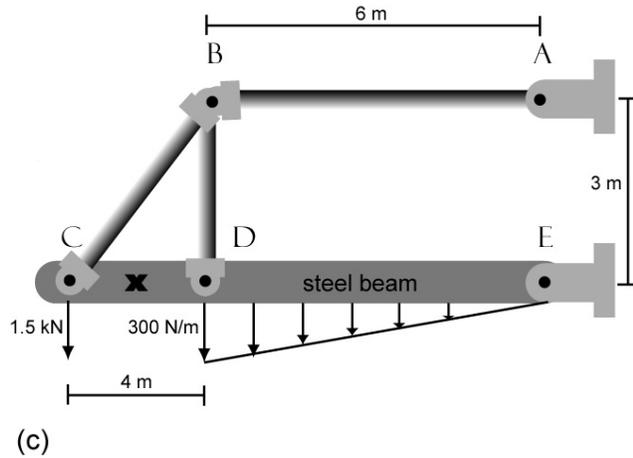

Figure 3: (a,b) Harvard Bridge; (c) Pin-and-hanger assembly, adapted from Hibbeler (2005).
3. The Harvard Bridge on Mass. Ave. (Figure 3(a,b)) was rebuilt in the late 1980s due to the fact that the pin-and-hanger assemblies of the expansion joints on the bridge were the same as those of the Mianus River Bridge in Connecticut. The Mianus River Bridge collapsed in 1983 when a single pin became overloaded and caused the death of three people and serious injury of three others. Your task is to find the normal and shear forces and moment associated with that failure, which occurred at the position marked  $x$ , the midspan between pins C and D (Figure 3(c)).